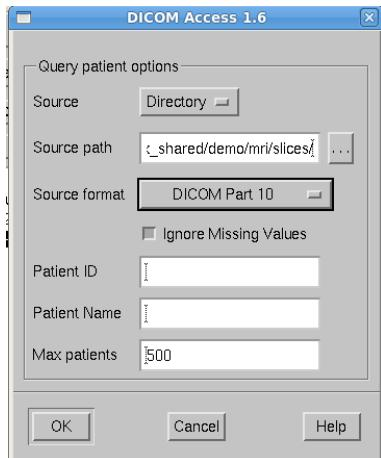

Figure 7: DicomAccess parameters.
- If the DICOM slices are not read correctly and you see error messages, you can try to change the settings to 'DICOM Part 10', 'Ignore VR mismatches', 'Ignore missing values', and try again (Figure 7).